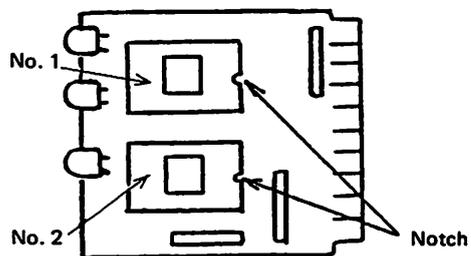

Fig. 11.3
- (9) Optionally available PROM cassette for memory expansion should be installed as shown in Fig. 11.3.